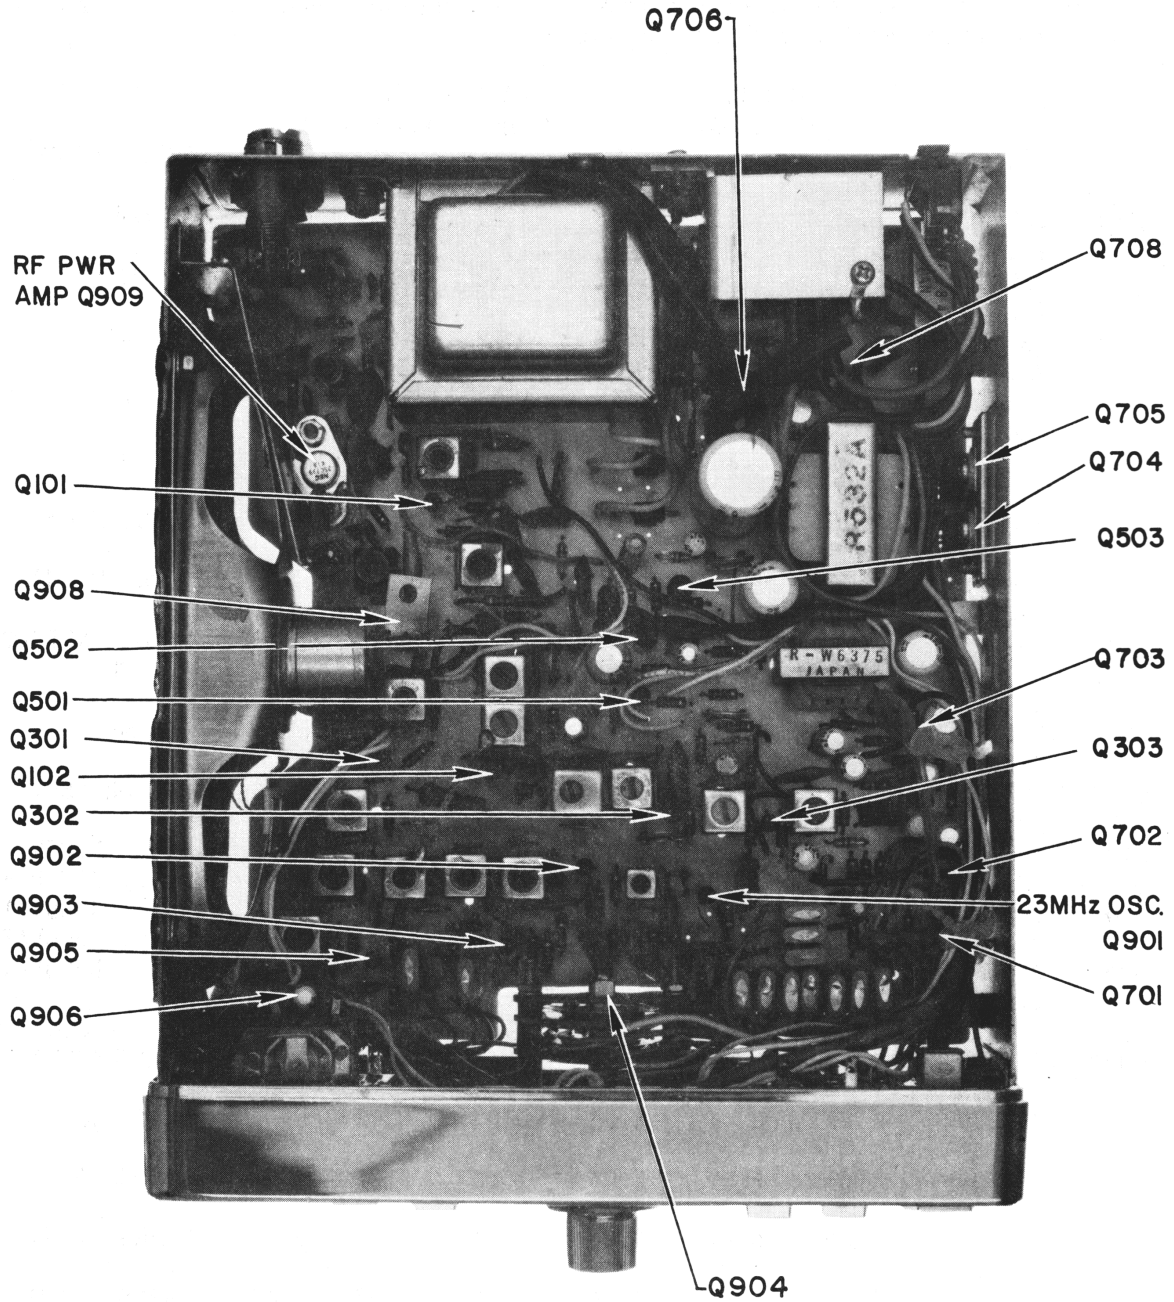

FIGURE 6, TRANSISTORS, LOCATION DIAGRAM
- Figure 6, Transistor Location Diagram